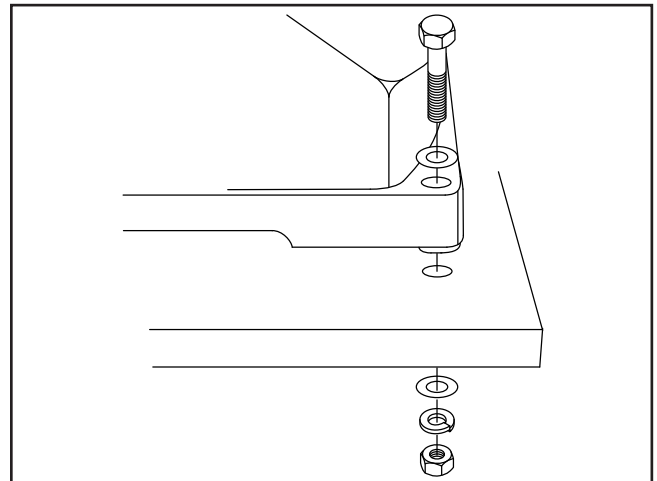

Figure 5. Mounting the spindle sander.
3. Secure the spindle sander to the benchtop or mounting board with 1/4" hex bolts, washers, lock washers, and hex nuts as shown in **Figure 5**.